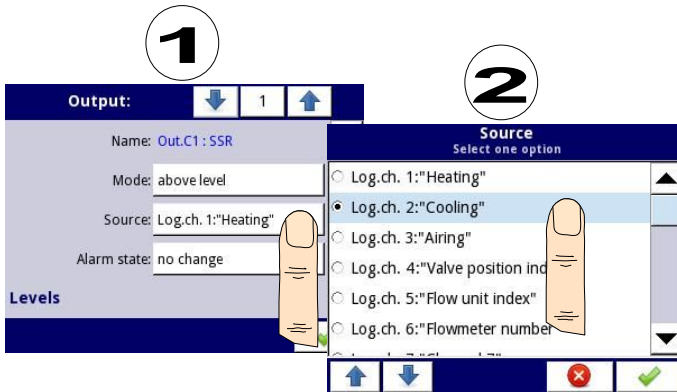

Fig. 7.83. Data source settings for built-in output (for SSR output module)
- **Source** – this parameter contains a list of logical channels (up to 60), where the selected logical channel will be a data source for this built-in output (see **Fig. 7.83**).
- **Source** - this parameter contains a list of logical channels (up to 60), where the selected logical channel will be a data source for this built-in output (see **Fig. 7.83**).
logical channel will be a data source for this built-in output (see **Fig. 7.83**),